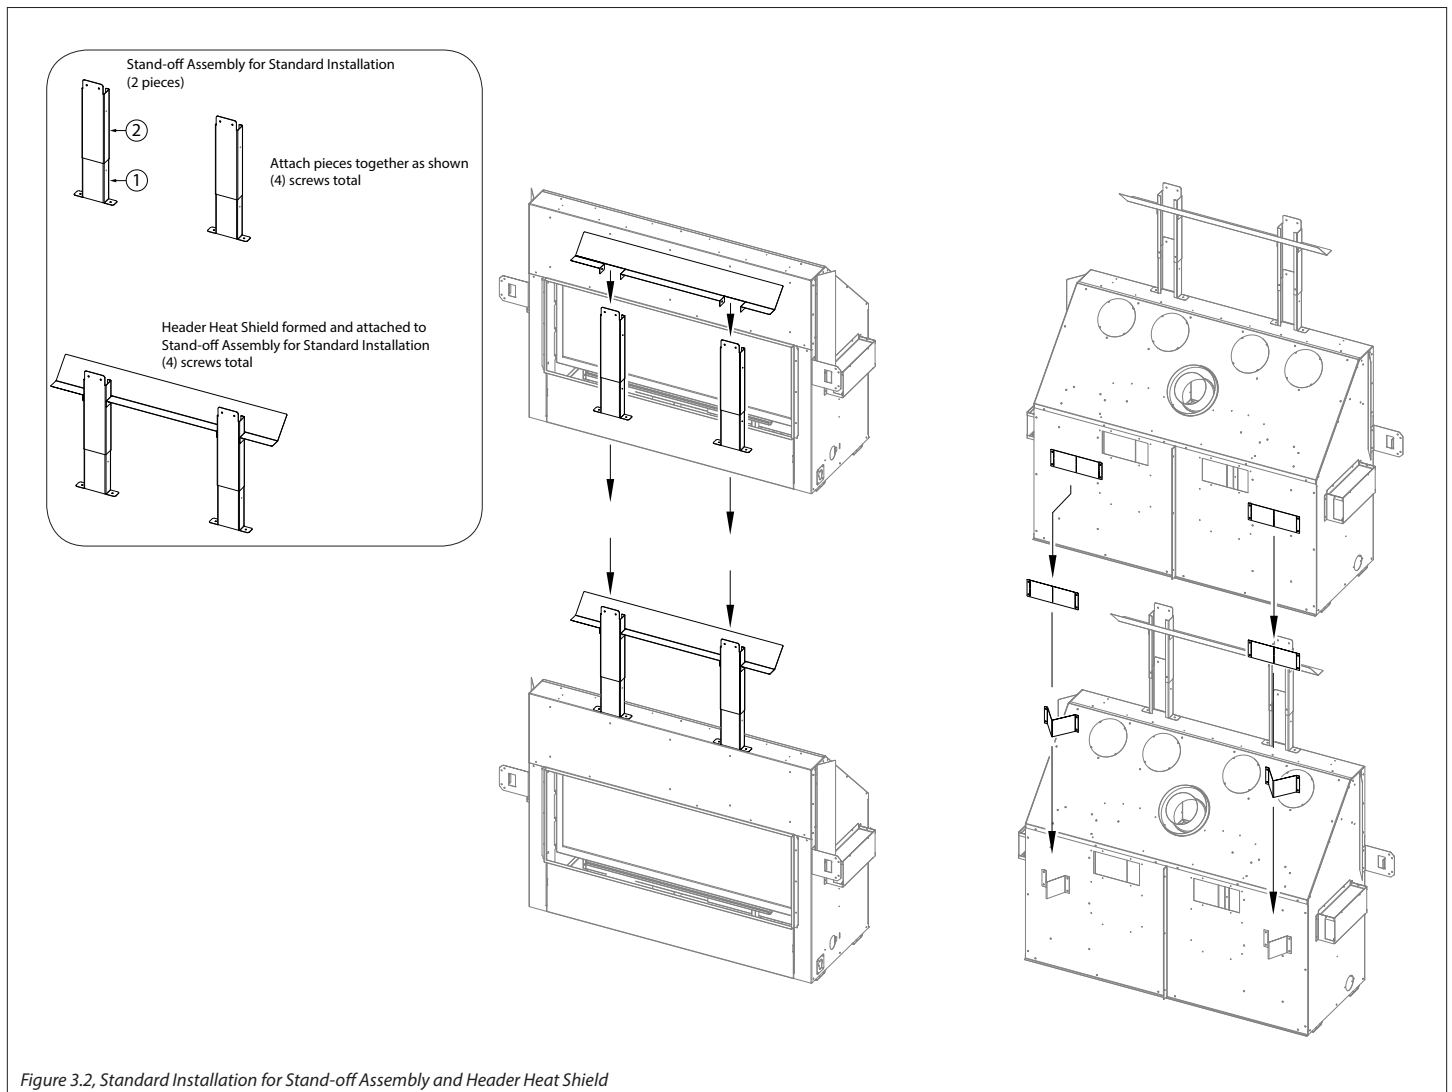

Figure 3.2, Standard Installation for Stand-off Assembly and Header Heat Shield
4. Remove and save screws securing the back stand-off brackets. Form the back stand-off heat shields as shown in Figure 3.2 on page 13. Secure using screws previously removed.